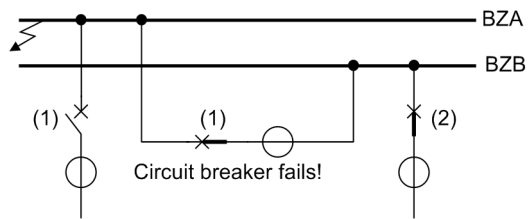

Figure 5-30 Fault on bus zone BZ A and failure of the bus coupler circuit breaker
If a busbar short-circuit occurs with the bus coupler closed (Figure 5-30, page 155), a TRIP command is issued to all related feeders of this zone and to the coupling bay units. (1)